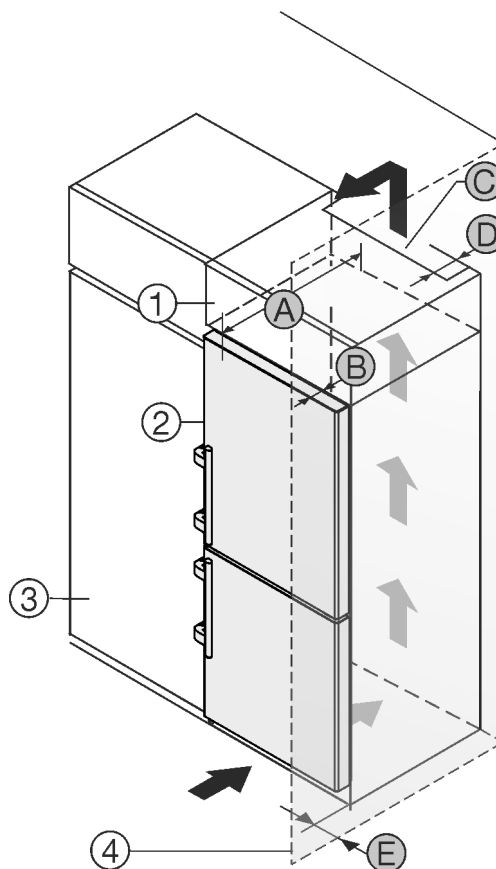

Fig. 2
You can place the appliance directly beside the kitchen cabinet *Fig. 2 (3)*.*
There must be a ventilation shaft at the depth *Fig. 2 (D)* of the back of the top cupboard over the entire width of the top cupboard.*
The cross section of the ventilation gap *Fig. 2 (C)* must be maintained below the ceiling.*
If the appliance is set up with the hinges next to a wall *Fig. 2 (4)*, the distance between the appliance and the wall must be at least 57 mm (2 1/4 in) . This is how far the handle protrudes when the door is open.*
In order to be able to fully open the door, the appliance must protrude by the depth of the door *Fig. 2 (B)* from the front of the kitchen cabinet. Regardless of the depth of the kitchen cabinets *Fig. 2 (3)* and use of wall spaces, the appliance can protrude further.*